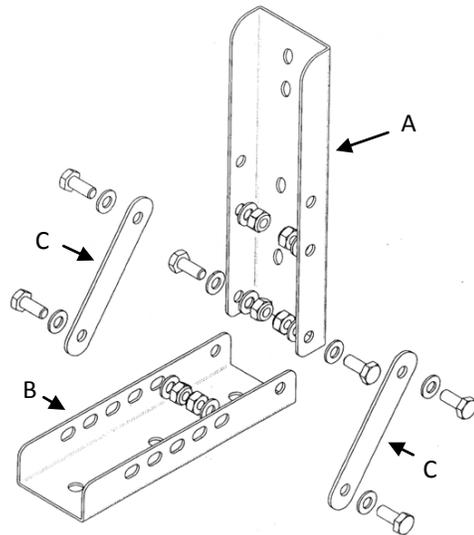
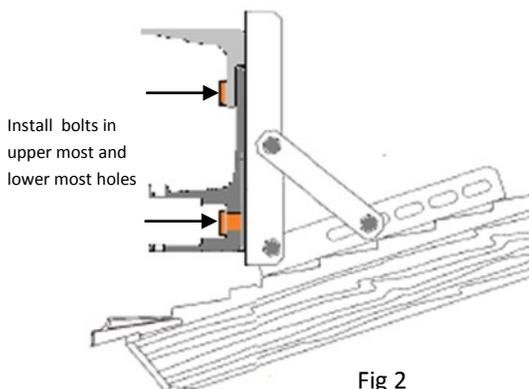

Fig 1
Fig 2
Roof brackets need to be assembled using the bolts, washers and nuts supplied. There are 2 flat plates: 1 back plate that is secured to the trusses/structure of the roof with the proper fasteners (B) and 1 face plate with brackets that allows the roof bracket to achieve the proper angle needed on the roof it is attached to (A) see (Fig 1). Once assembled bolt the awning wall bracket to the roof bracket with the bolts, washers, and nuts supplied (Fig 2).